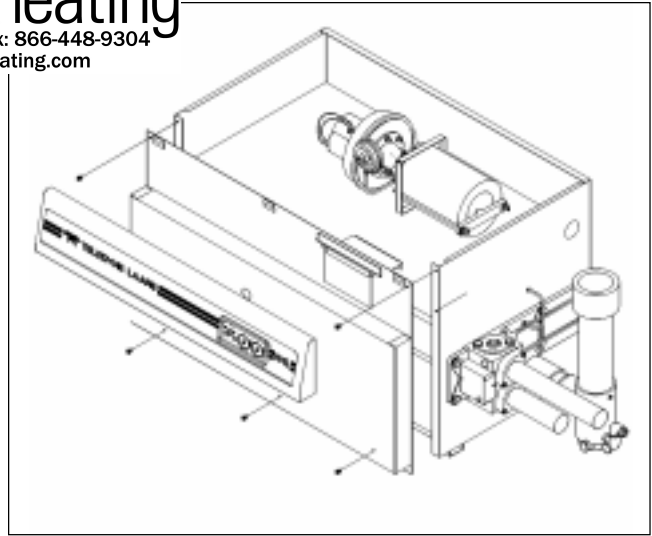

Figure 15. Upper and Lower Front Panel Removal
4. Remove the upper front panel by removing the screw located on the left side, inside the heater compartment (see Fig. 15).
5. Lift the upper front panel out of the three slots and set it aside (see Fig. 15).
and the four screws on the sides (see Fig. 15). Two of these screws are inside the heater compartment.